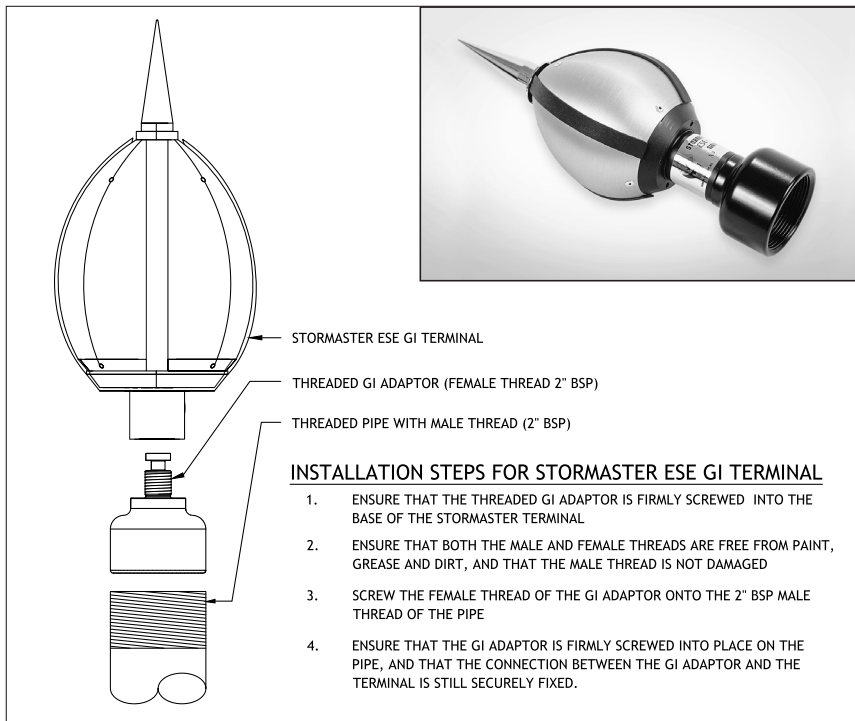

Figure 15.
LPI offers within its range of Stormaster terminals a GI version which is designed for a threaded connection to a 2 inch BSP GI pipe. Please refer to drawings on pages 12 and 13 along with Figure 15 for further details.
- Following installation of the Stormaster GI terminal to the threaded pipe as per Figure 15 it will be necessary to connect the metallic pipe to a conventional downconductor in order to convey the lightning energy to the earthing system